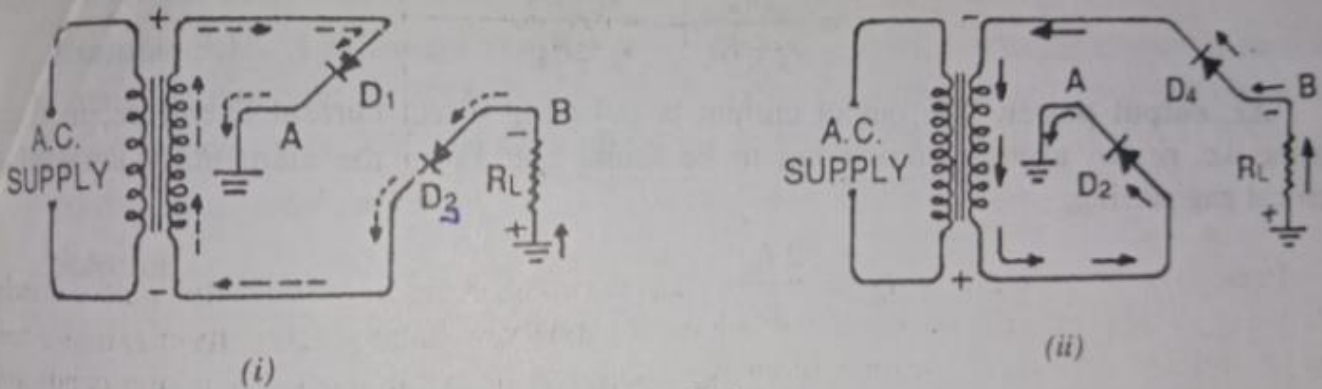

Fig. 9.22
**Operation.** During the positive half-cycle of secondary voltage, the end  $P$  of the secondary winding becomes positive and end  $Q$  negative. This makes diodes  $D_1$  and  $D_3$  forward biased while diodes  $D_2$  and  $D_4$  are reverse biased. Therefore, only diodes  $D_1$  and  $D_3$  conduct. These two diodes will be in series through the load  $R_L$  as shown in Fig. 9.22 (i). The conventional current flow is shown by dotted arrows. It may be seen that current flows from  $A$  to  $B$  through the load  $R_L$ .
During the negative half-cycle of secondary voltage, end  $P$  becomes negative and end  $Q$  positive. This makes diodes  $D_2$  and  $D_4$  forward biased whereas diodes  $D_1$  and  $D_3$  are reverse biased. Therefore, only diodes  $D_2$  and  $D_4$  conduct. These two diodes will be in series through the load  $R_L$  as shown in Fig. 9.22 (ii). The current flow is shown by the solid arrows. It may be